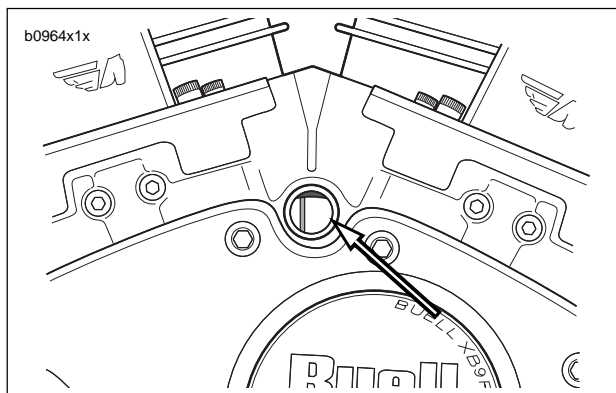

Figure 1-55. Advanced Timing
4. See Figure 1-55. If timing is retarded (mark appears on right side of window) rotate timing plate clockwise.